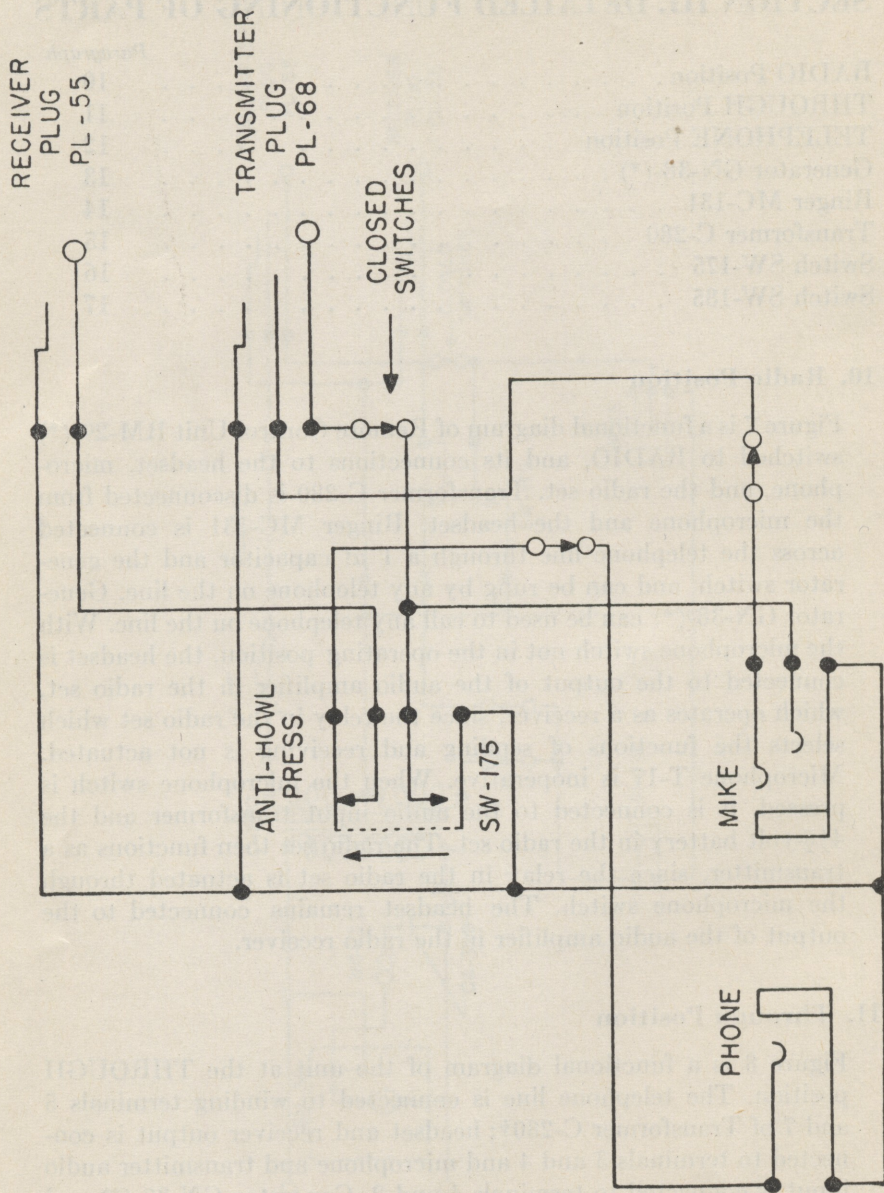

FIGURE 7. REMOTE CONTROL UNIT RM-29-(*)
- a. **RADIO**.—When the radio set is to be operated only by Remote Control Unit RM-29-(*) (Fig. 7):
- (1) Set Switch SW-185 to RADIO position.
- (2) To transmit, press the Microphone T-17 “press-to-talk” switch and talk into the microphone.
Figure 7 is a functional diagram of Remote Control Unit RM-29-(*) switched to RADIO, and its connections to the headset, microphone, and the radio set. Transformer C-280 is disconnected from the microphone and the headset. Ringer MC-131 is connected across the telephone line through a 1 μ f capacitor and the generator switch, and can be rung by any telephone on the line. Generator GN-38-(*) can be used to call any telephone on the line. With the microphone switch not in the operating position, the headset is connected to the output of the audio amplifier in the radio set, which operates as a receiver, since the relay in the radio set which selects the functions of sending and receiving is not actuated. Microphone T-17 is inoperative. When the microphone switch is pressed, it is connected to the audio input transformer and the 4½-volt battery in the radio set. The radio set then functions as a transmitter, since the relay in the radio set is actuated through the microphone switch. The headset remains connected to the output of the audio amplifier in the radio receiver.